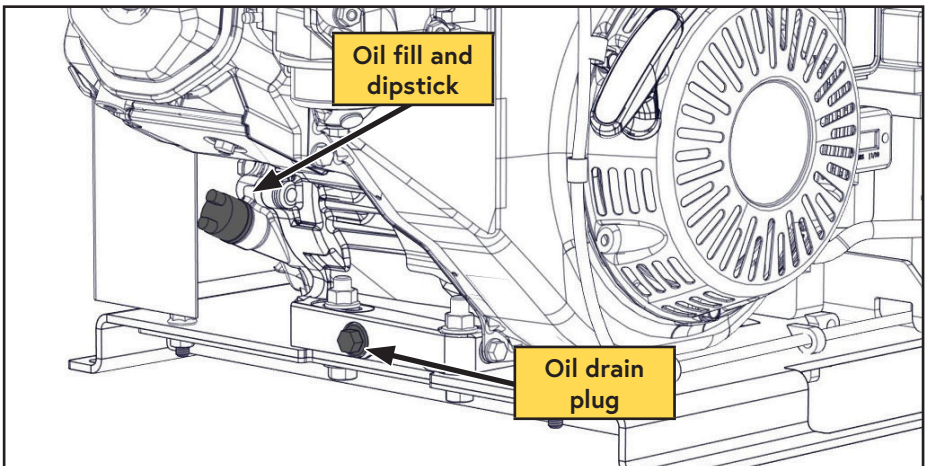

Figure 40 — Engine oil drain
- ☐ Locate the engine oil drain and clean the area around the drain plug and dipstick to prevent contamination (Figure 40).